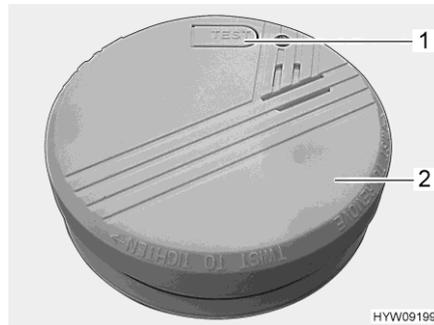

Fig. 146 Smoke alarm
- Turn the smoke alarm (Fig. 146,2) anticlockwise until it can be released from the holder.
- Test the smoke alarm. To do this, press the test button (Fig. 146,1). The alarm must sound.